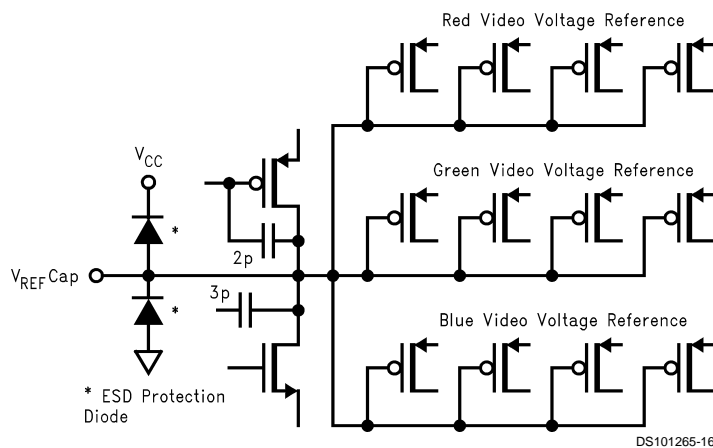

FIGURE 13. Pin 3 ( $V_{\text{REF}}$  Cap)
**Pin 3—VREF Cap** A 0.1 μF capacitor is placed close to this pin to decouple VREF. VREF is used by the three video channel circuits to make the VideoPlex signal. Figure 29 shows the external schematic of pin 3, Figure 13 shows the internal schematic of pin 3.